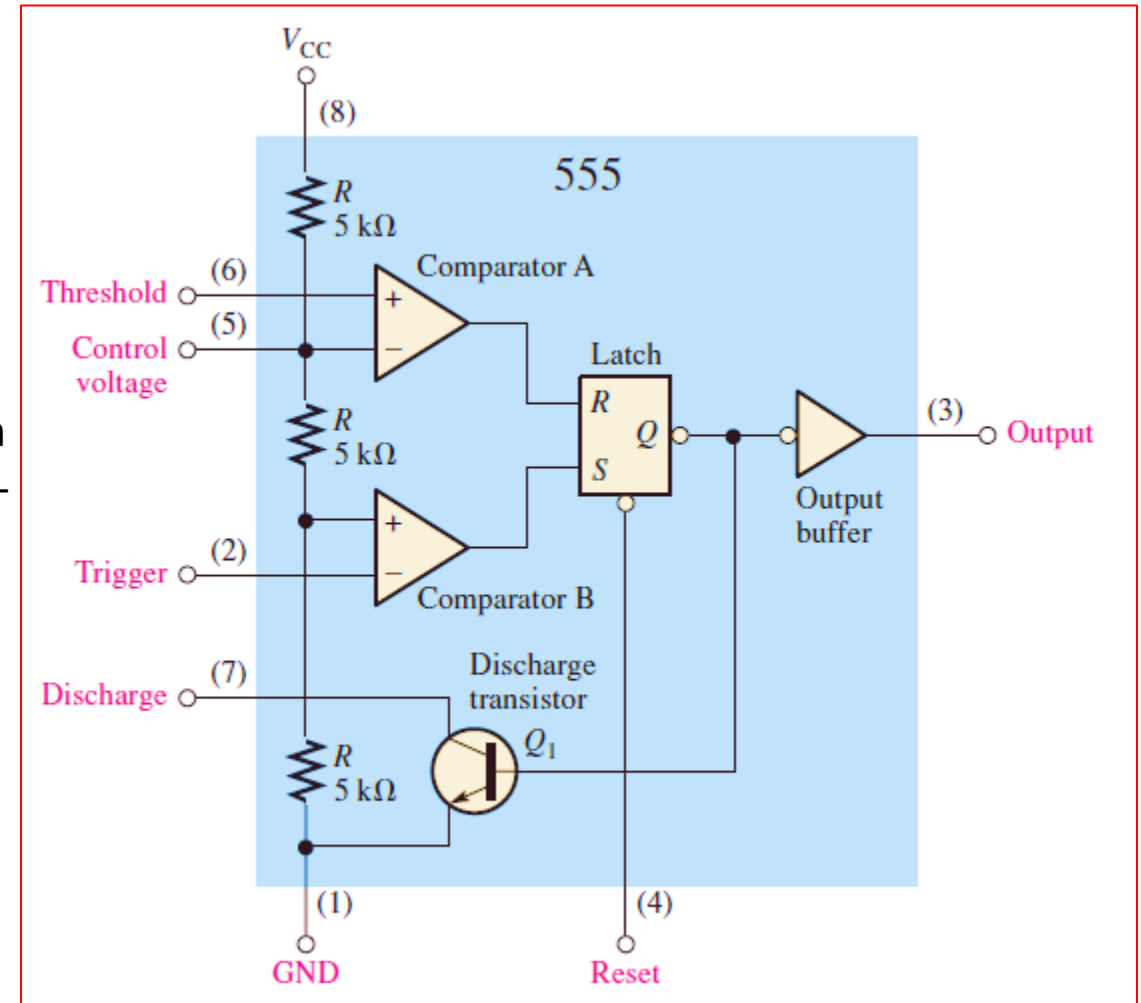

FIGURE 52 Internal functional diagram of a 555 timer (pin numbers are in parentheses).
- A functional diagram showing the internal components of a 555 timer is shown in Figure 52.